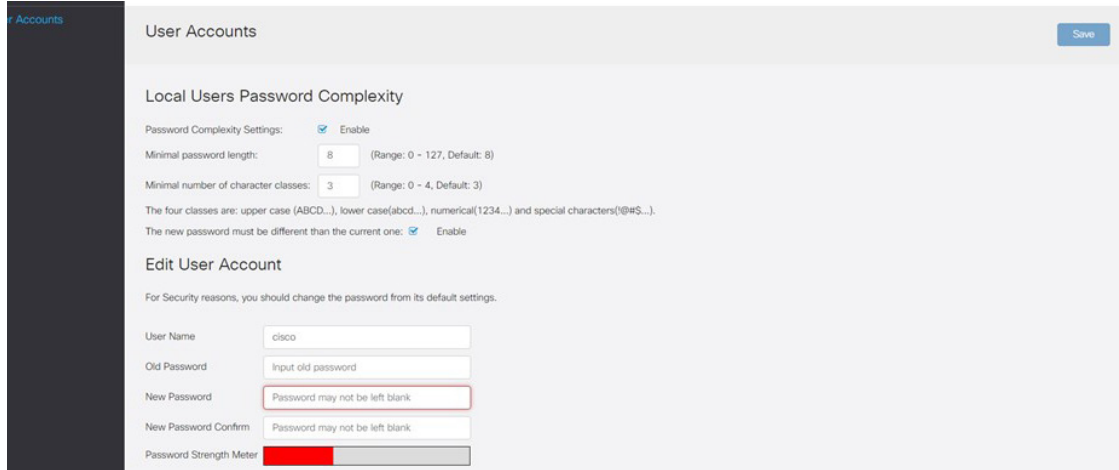

Figure 6
2. After successfully logging into the router, you will be directed to a "User Accounts" screen as shown below. In order to proceed with programming the router, a new password will need to be entered. The default username and password can continue being used. (Figure 6)